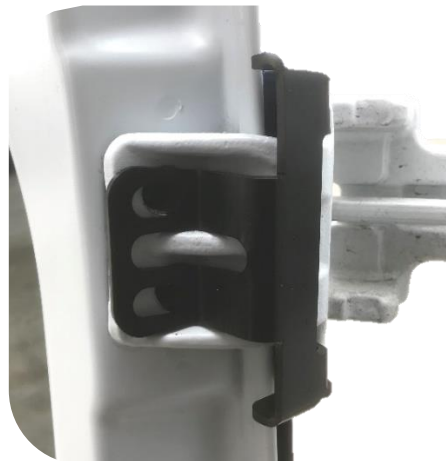

Figure 6: Upper Bracket over Factory Hinge
12. Rotate the hinge and bracket back to lining up with the door as seen in Figure 6.